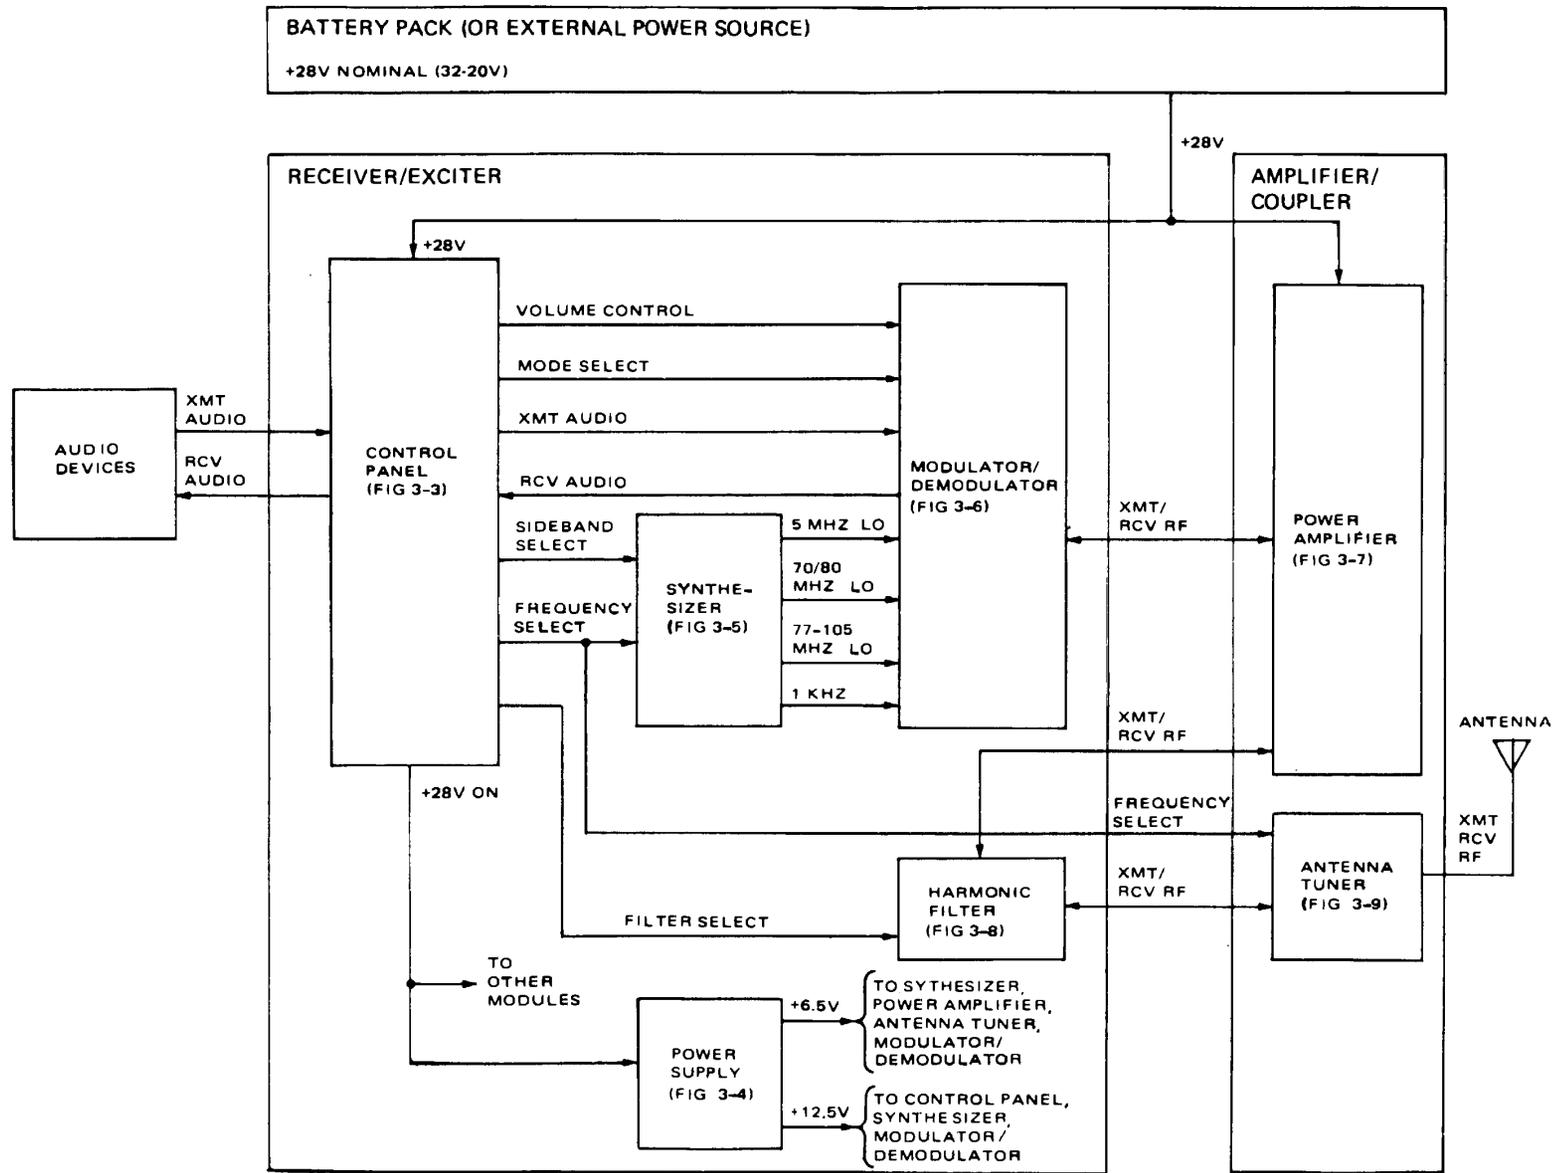

Figure 3-2. Radio Set Simplified Block Diagram
3-10. CONTROL PANEL (Figure 3-2). The receiver/exciter control panel provides operational control of the radio set. It couples voice or CW key from the audio devices in use by the operator, and has controls for selection of frequency, volume, mode, and sideband (SB), and illumination of frequency readouts. Frequency Select and Sideband Select signals are routed to the synthesizer, and the Frequency Select signal also to the antenna tuner. Filter Select signals are routed to the harmonic filter. Volume control, mode select and Xmt Audio are applied to, and Rcv Audio is received from, the modulator/d -modulator. The control panel also